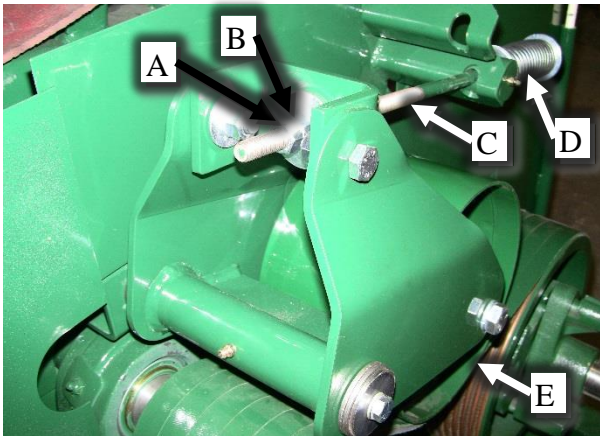
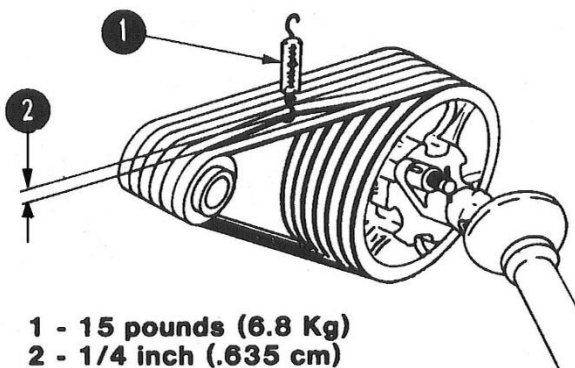

Figure 48 - Belt Tension Adjustment Idler - 1000 RPM Drive Shown (Shields Removed for Clarity).
Figure 50 - Checking Belt Tension.
- Loosen locking nut "A" (see Figure 48).
- Adjust bolt "A" (Figure 48, Detail A) until 15 pounds of pull on the scale raises the top of one double V-belt approximately 1/4 inch above the top of the remaining belts (see Figure 50).